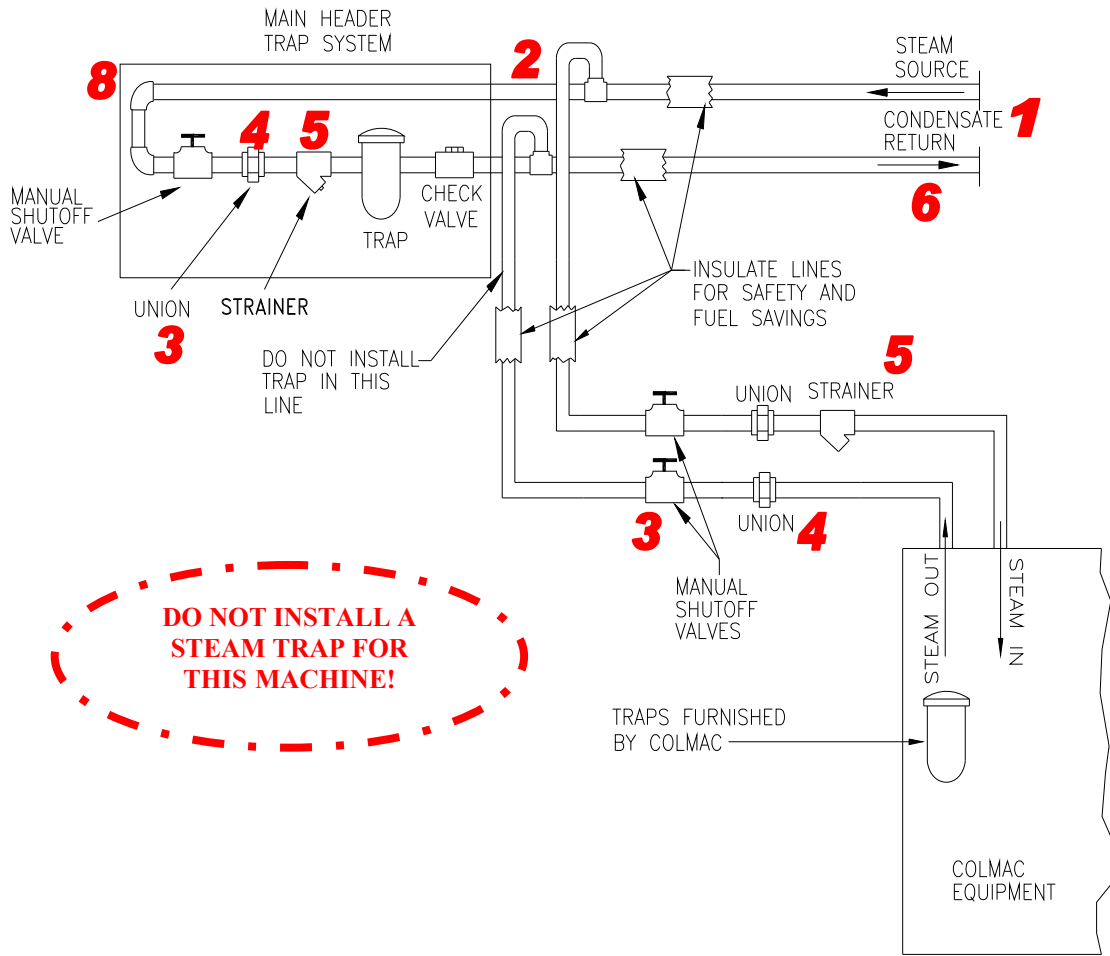

Figure 6
The steam and return system connections are very important. Poor steam quality or incorrect connections directly affect its performance. (Reference Figure 6)
1. To insure adequate steam supply, the steam line should be 1-1/2" (38mm) or larger and the return line should be 3/4" (19mm). The factory recommends the larger supply sizes to compensate for line loss. Since the machine is equipped with steam traps, no additional traps are required. Never put one (1) trap in line with another, as the traps will no longer function. Be sure to check all steam connections for leaks. A strainer should be put into the steam line. All steam lines should be insulated to prevent loss of heat and possible injury to personnel.
2. **Supply Line:** Connect the steam line to the top of the steam headers as shown in Figure 6 to insure a clean, dry steam supply.
3. **Shut-off valves** installed ahead of the union and strainer on the "steam-in" and "steam-out" lines and between the union and return header on the "Main Header Trap System" (8), will simplify shut-off for repair and maintenance. "Ball" or "Gate" type valves are recommended for maximum flow.